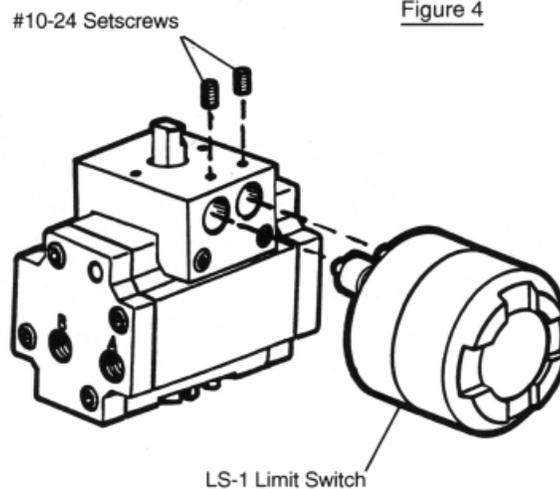

Figure 5
1. Fit the bushings, which extend from the Limit Switch housing, into the matching holes in the long side of the mounting bracket. Push switch housing against bracket and verify that switch body touches bracket. Secure switch body to bracket with two #10-24 setscrews using a medium strength (nonpermanent) thread locker (not included in mounting kit). Note: Hex wrench supplied with LSM Mounting Kit. Figure 5.